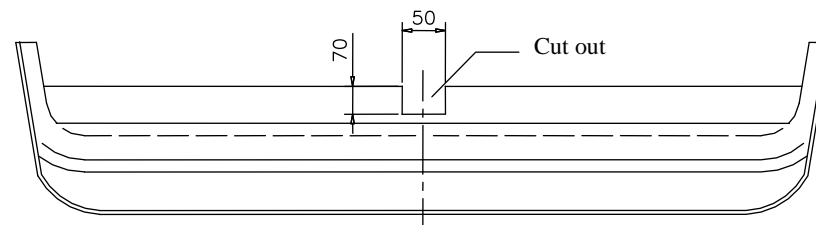

Fig. 2
3. On the left and right side put to chassis members brackets (pos. 4 and 5) in this way so elongated holes tally with plastic pin protruding from floor and next through holes (pos. A, B, C) drill holes  $\varnothing 1$ mm.
4. Bracket (pos. 5) screw through hole (pos. C) using washers (pos. 10) and bolts M10x30mm (pos.9).
5. Put main bar of towbar (pos. 1) to mounted brackets (pos. 4 and 5), through holes (pos. A and B), washers and plates (pos. 6) screw with chassis member using bolts M10x50mm (pos. 8) from towbar accessories.
6. Through holes (pos. D) drill holes  $\varnothing 1$ mm and next screw with bolts M10x30mm – pos. 9 (use washers  $\varnothing 35 \times \varnothing 12 \times 3$ mm – pos. 10).
7. Fix tow-ball (pos. 2) and socket plate (pos. 3) using bolts M12x75mm (pos. 7) from accessories.
9. In central part of the bumper cut out fragment 50x70mm as shown in the fig. 2.